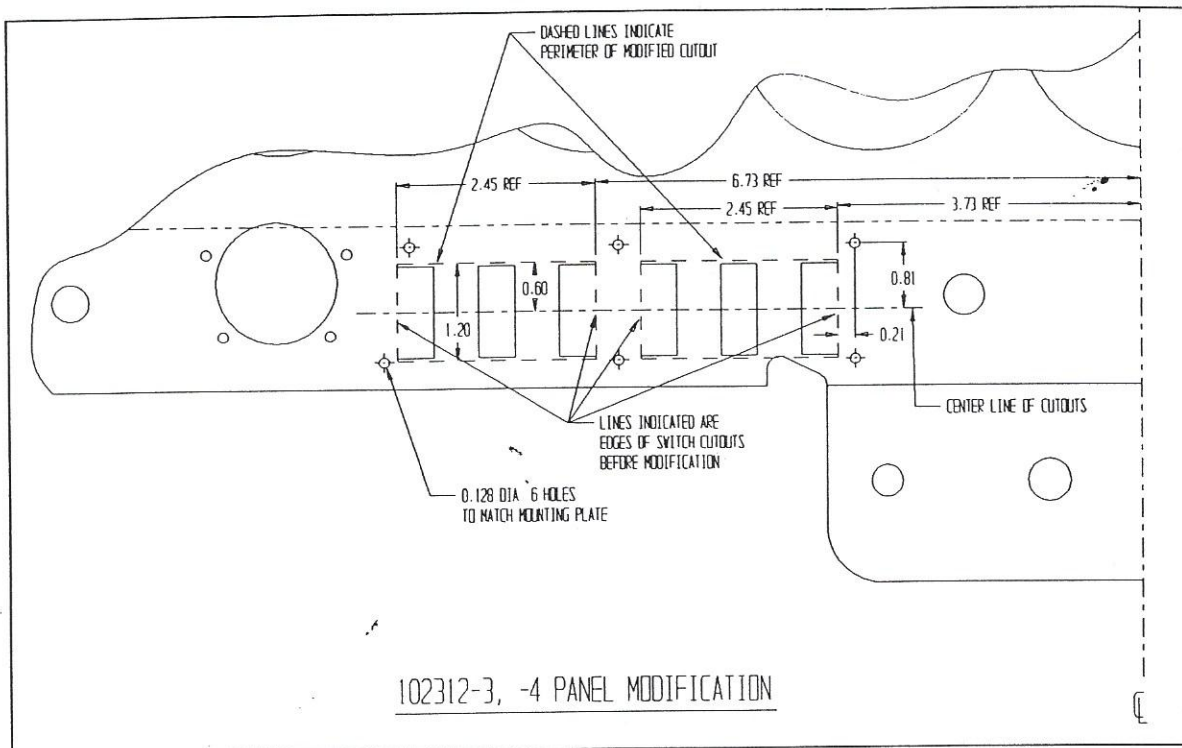

Figure 3
5. Modify panel as shown in Figure 3 by cutting through the metal panel and its plastic cover and then drilling the holes shown to match the FA102312-2 mounting plate.